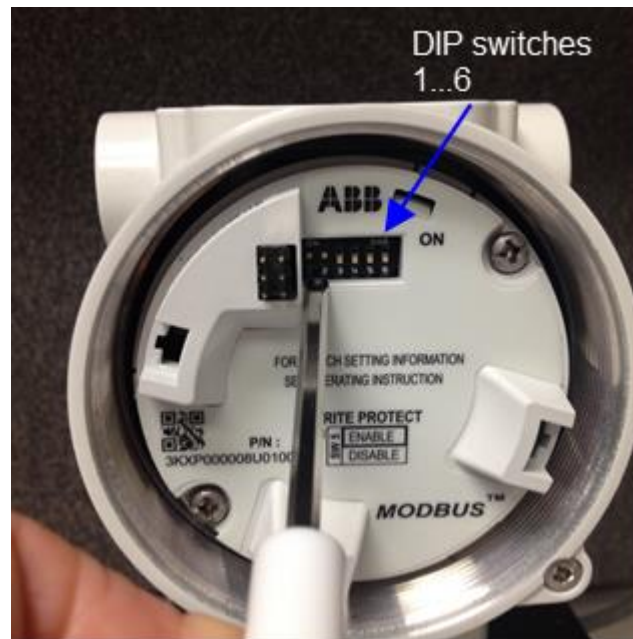

Figure 36: DIP switches on the electronics module
4. Locate DIP switch 5 on the electronics module (Figure 36). Switches are numbered from left to right, so switch 5 is the next to the last switch on the right.